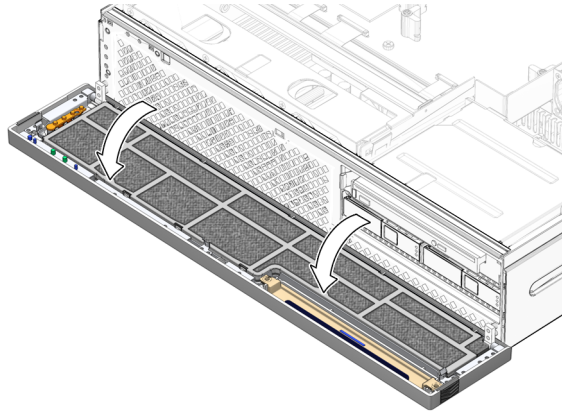

FIGURE 5-3 Installing the Air Filter
2. Insert the air filter into the bezel (FIGURE 5-3).